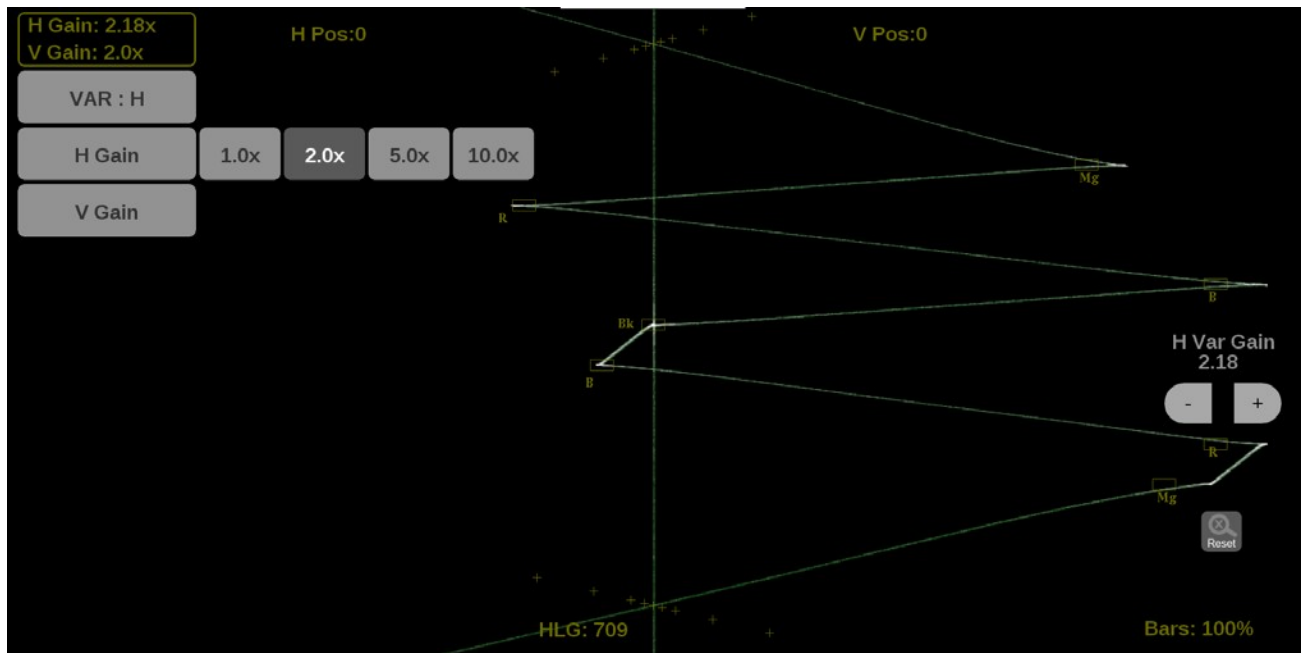

Figure 212: Lightning on-screen tools – horizontal gain
1. Select the button in the top left corner to expand the available options drop down list. (See Figure 212.)